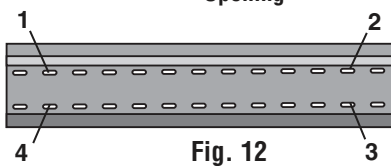

Fig. 12
4. Measure and mark the four (4) holes (See Fig. 12) above the top of the doorway opening (A+1" & B+1"). The pre-punched oblong mounting holes allow the plate to be mounted no matter where studs or structural supports are located. Attach the bottom mounting plate to the wall.